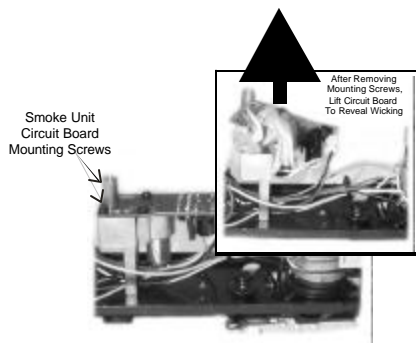

Figure 3: Inspecting The Smoke Unit Wicking
**CAUTION:** *Operating the engine without smoke fluid and with the smoke unit switch in the ON position can damage your smoke unit wick, causing the wick to become hard, blackened and unabsorbant around the heating element. When this occurs, it may be difficult for the wick to soak up the smoke fluid resulting in poor or no smoke output. If that occurs, we recommend that you inspect and/or replace the wick taking care to not run the engine without fluid in the future. You can inspect the wick to see if it needs replacement by removing the smoke unit circuit board from the smoke unit body as seen in Fig.3. After removing the circuit board screws lift the circuit board away and inspect the wick. If the wick is darkly discolored and hard, it should be replaced.*